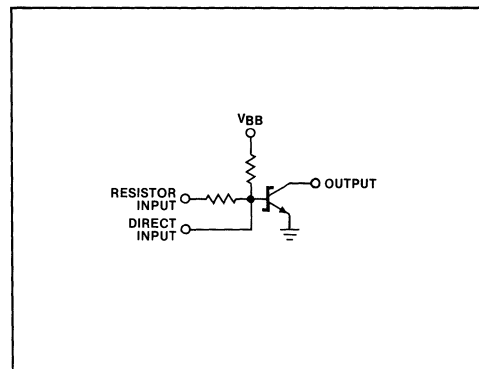

Figure 3. Schottky Buffer — Schematic Diagram
- 8 to 1 Multiplexer (Figure 3)—similar to 74152.
Also, the CG1001 contains several test configurations that can be used in evaluating circuit performance under various logical, topological, and environmental conditions. A block diagram of the Gate Array Evaluation Circuit is shown in Figure 2 and logic representations of each discrete function are shown in Figures 3 through 6.